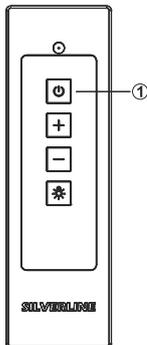

Fig. 22
- ➔ Press the () button on the () remote controller (Fig. 22).